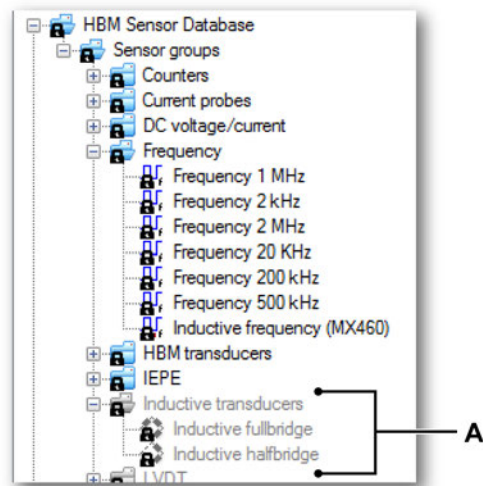

Figure 2.16: Not supported sensors
- Not supported sensors are shown as disabled in the sensor tree (see Figure 2.16).